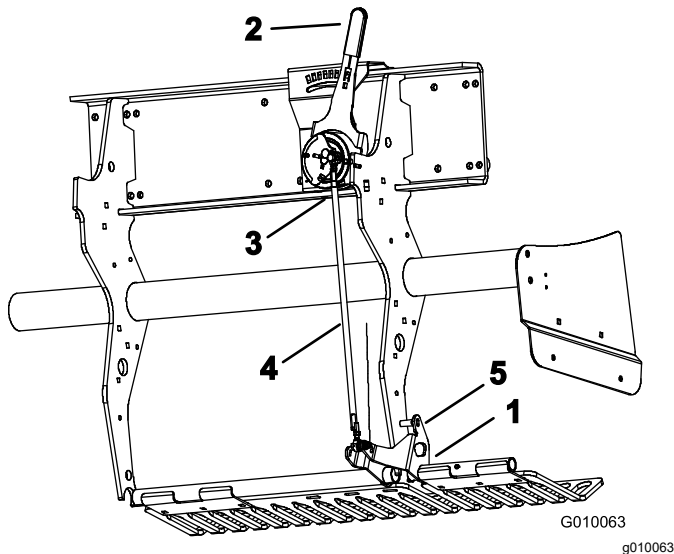

Figure 59
2. Rotate the left turf guard mounting bracket (Figure 59) up until you can insert a locking pin, such as an 8 mm (5/16 inch) drill rod or bolt, between the bracket and the depth setting tube welded to the frame.
3. Move the tine depth lever (Figure 59) to the H setting (deepest).
4. Disconnect the outboard ball switch (Figure 59) from the wire harness (Head-Low switch).
5. Loosen the jam nuts (left and right) on the depth adjustment tie rod (Figure 59).